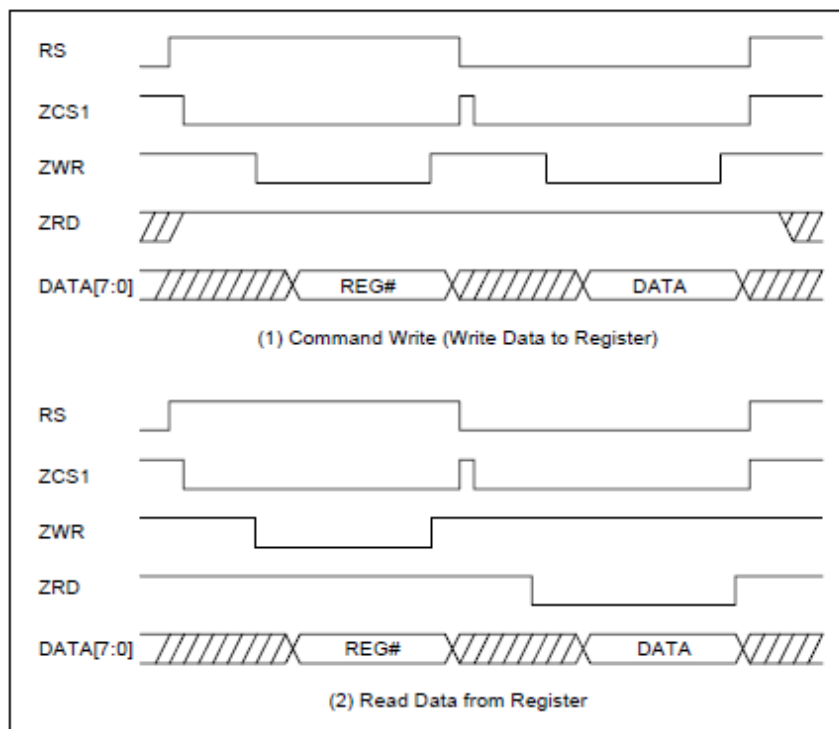
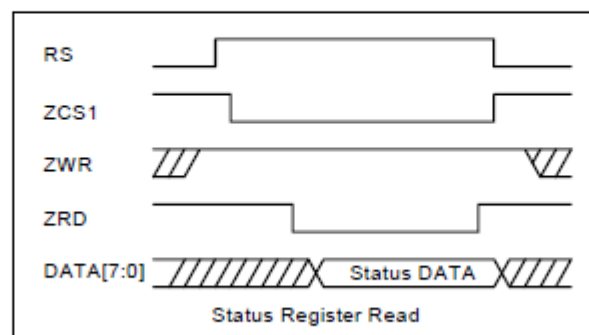

Figure 6-5 : Command Write and Register Read Cycle
Figure 6-7 : Status Read Cycle
According to the Table 5-1, RA8806 accept 4 cycles through MPU interface. If users want to write command to RA8806, then a Command cycle has to execute first, and then execute a Data Write cycle. The "Command Write" means write function data to register. After these two cycles, the Data will write into the indicative Register. Please see the following Figure 6-5 (1).
If the secondary cycle is a "Data Read", then user could read the register content. See the following Figure 6-5 (2). Note the Figure 6-5 to Figure 6-7 are use the 8080 MPU interface as examples.
RA8806 provides a dedicate Status Read cycle to help users know the status of RA8806. Please refer to following Figure 6-7 and the beginning of Section 5-2 “Register Description”.